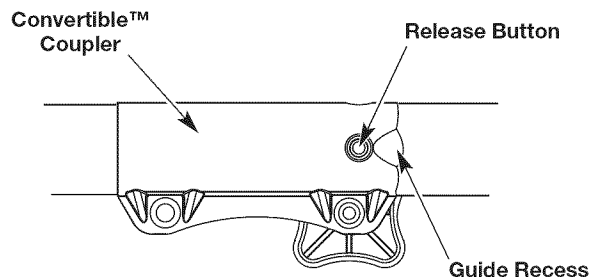

Fig. 5
**NOTE:** Aligning the release button with the guide recess will help installation (Fig. 5).
2. Press and hold the release button (Fig. 5).